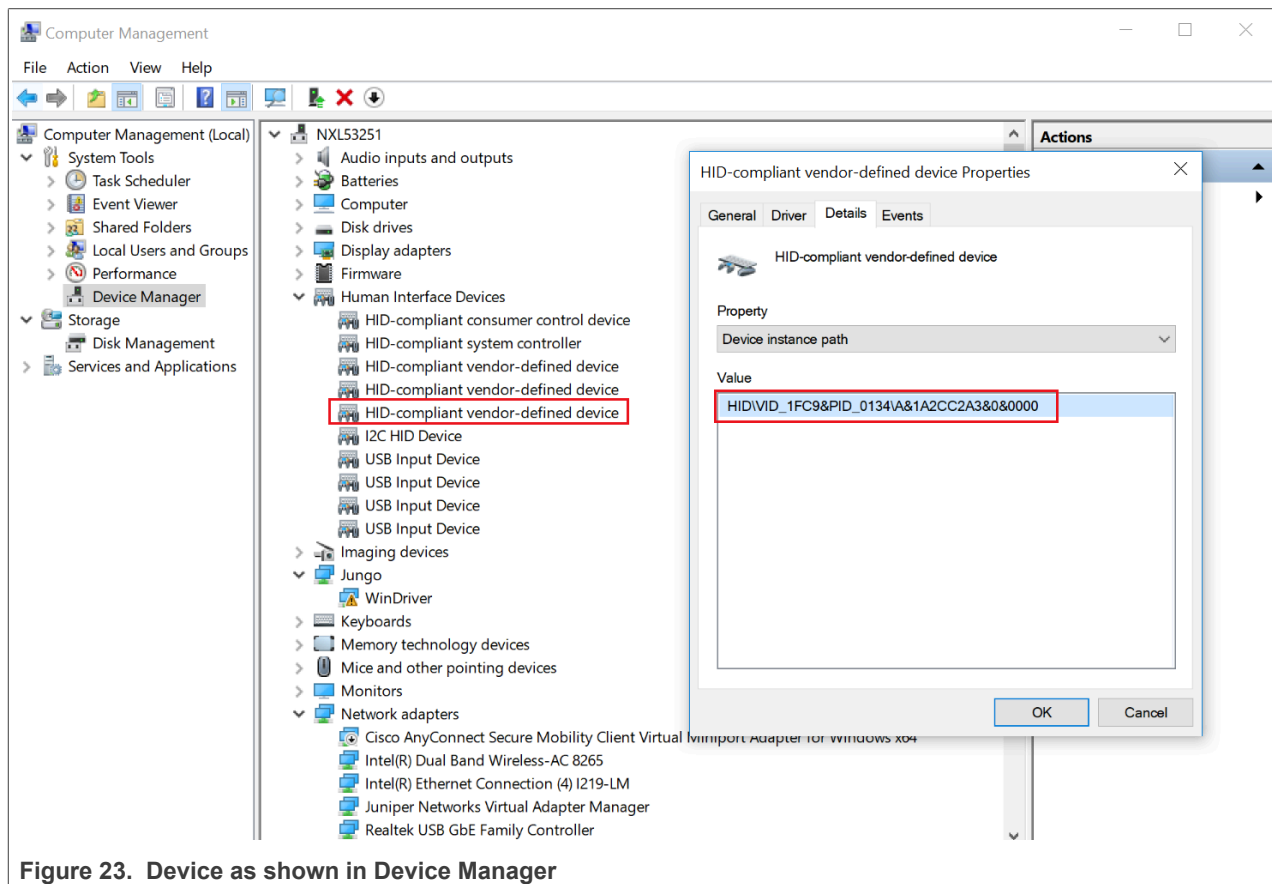

Figure 23. Device as shown in Device Manager
3. The PC recognizes the i.MX 8M Mini device as (VID:PID)=(1FC9:013E), as shown in Figure 23.